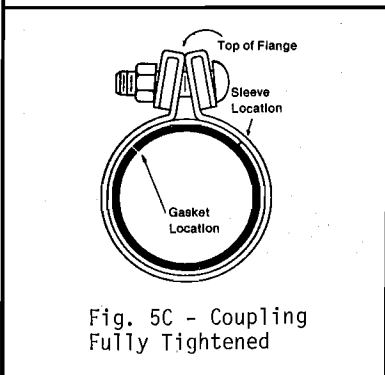

Fig. 5C - Coupling
8. When properly and evenly tightened to the recommended torque the coupling installation is complete. The top edges of the flanges will touch and flanges appear as a vee when viewed from the end, as shown in Figure 5C...do not attempt tightening bolts to flatten flange faces together, as this exceeds recommended limits.